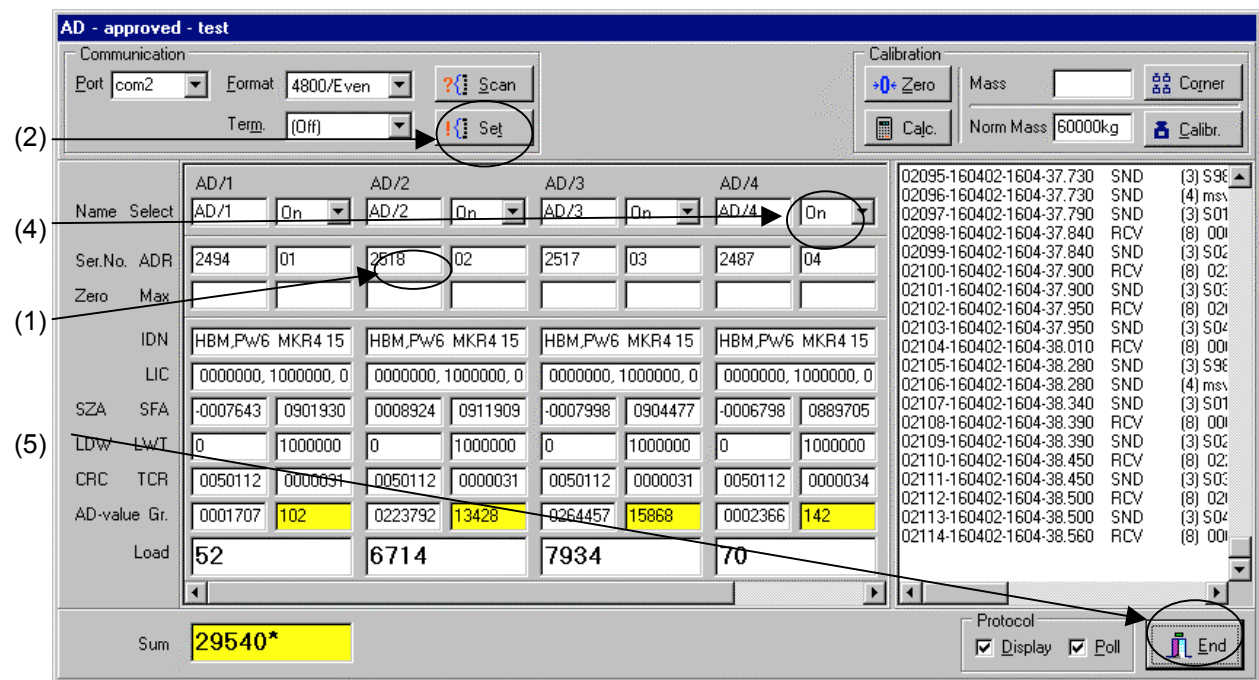

Figure 38 – Replacement of load cells
- Single Scale -> Parameter/Load Cell -> AD, Figure 38 appears
- (1) Overwrite old serial number with new serial number, do not change the address
- (2) Activate Set - not Scan !
- (4) If load cells of further scales are displayed, these must be switched off again.
- (5) End and take over data. Notify this change to the responsible authorities !